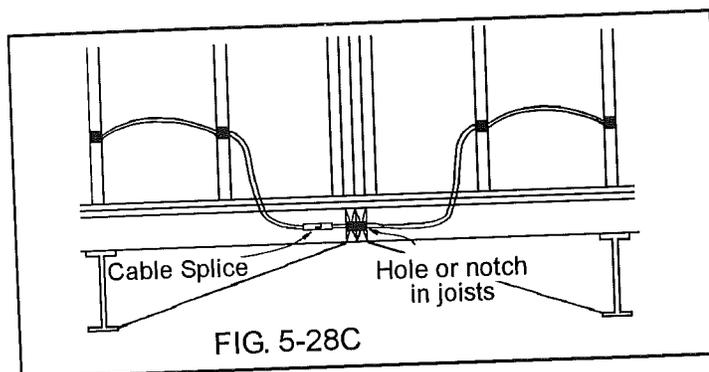

FIG. 5-28C
1. Remove bottom board access covers (See Fig. 5-28C).